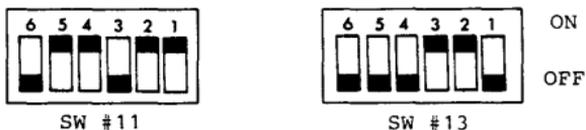

FIGURE 1
- Set the 64 character printer switch as shown in Figure 1.